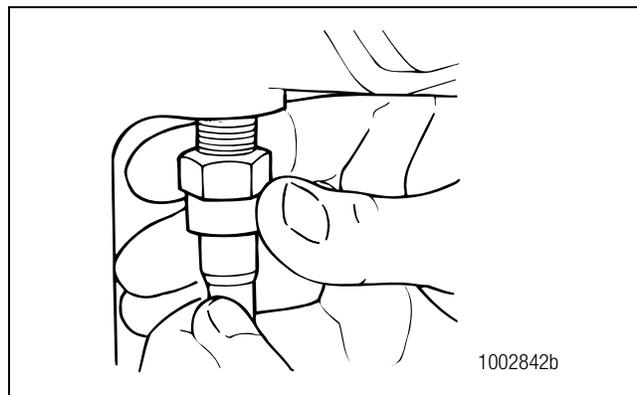

Figure 6.24
- With the shift collar in the locked position, install the sensor switch into the threaded hole in the front of the carrier. Figure 6.24.